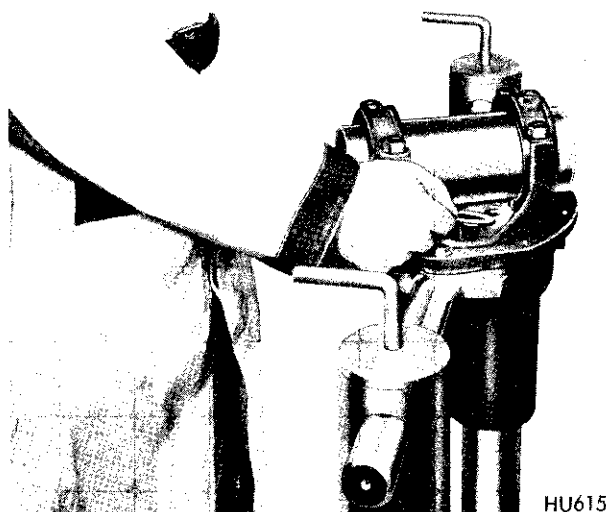

Fig. 29—Determining Spacer Thickness
(7) Select a rear pinion bearing mounting shim which will fit between cross arbor and gauge block. This fit must be snug but not too tight (similar to the pull of a feeler gauge. (Fig. 29). This shim is then used in determining the correct thickness shim for installation.
(8) To select a shim for installation, read the marking on end of pinion head (—0, —1, —2, +1, +2, etc). When marking is —, (minus) add that amount to the thickness of shim selected in step (7). When the marking is + (plus), subtract that amount. Example: With a shim .036 inch thick and a pinion marked —2, install a shim .038 inch thick (.036 + .002 = .038). Example: With a shim .036 inch thick and a pinion marked +2, install a washer .034 inch thick, (.036 — .002 = .034) or when a shim .036 inch thick is too loose and .038 inch too thick, use .036 inch shim. Treat other pinion markings in a similar manner. Shims are available in one thousands of an inch increments.
(9) Remove differential bearing caps and remove tool arbor from carrier.